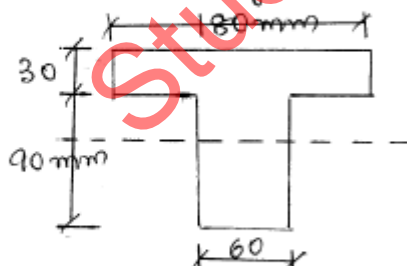

Fig. 9 Q.4(b)
- (b)** A beam of T shaped cross section shown in Fig.9 is subjected to bending about x-x axis due to a moment of 20 kNm. Find the bending stress at the top of the beam. **07**